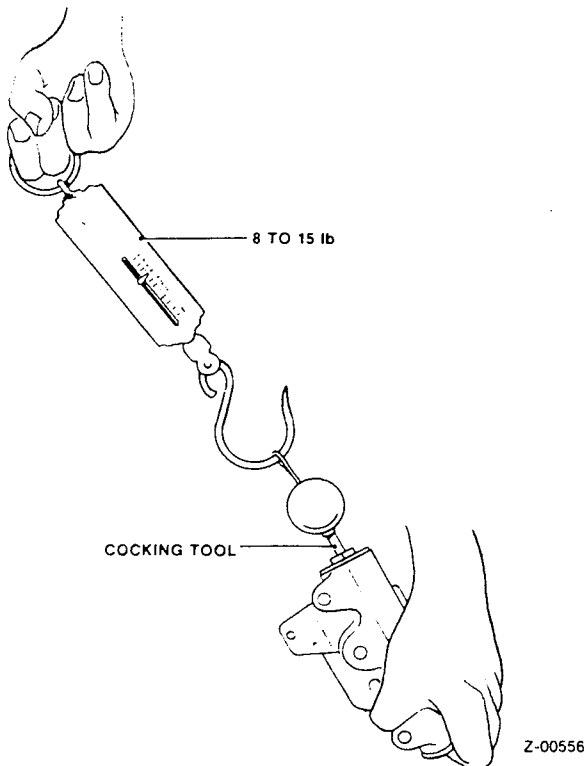

Fig 5 Testing firing pin spring
9.23 Screw the cocking tool into the firing pin. By attaching a spring scale to the cocking tool, check that the load required to disturb the firing pin is between 8 to 15 lbf, (fig 5).